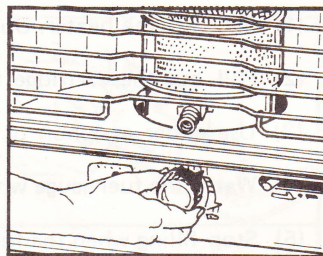

Fig. 7
- (1) For first time using the heater, wait 15 minutes after fueling, to allow wick to become fully saturated before lighting. Ignition is possible after 5 minutes when refueling. If wick is not fully saturated when lighted, heater will not burn properly and would cause odours.
- (2) Raise the wick to its full height by turning the wick adjusting knob clockwise till it stops (Fig. 7). This fully raises the wick and also sets the shut-off device (clicking will stop when shut-off device is set).